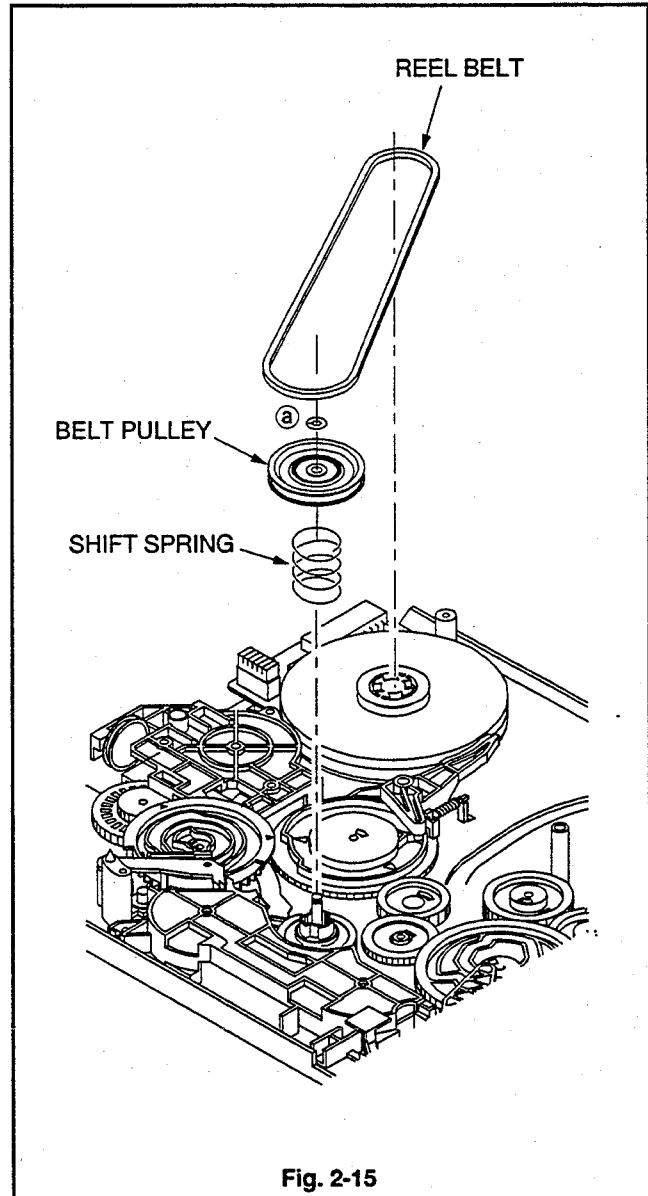

Fig. 2-15
1. Remove the REEL BELT shown in Fig. 2-15.
2. Remove the CUT WASHER (a) fastening the BELT PULLEY shown in Fig. 2-15, and remove the BELT PULLEY.
3. Remove the SHIFT SPRING shown in Fig. 2-15.
1. Install the SHIFT SPRING shown in Fig. 2-15.
2. Fasten the BELT PULLEY shown in Fig. 2-15.
3. Install the CUT WASHER (a) shown in Fig. 2-15 to fasten the BELT PULLEY.
4. Install the REEL BELT shown in Fig. 2-15.